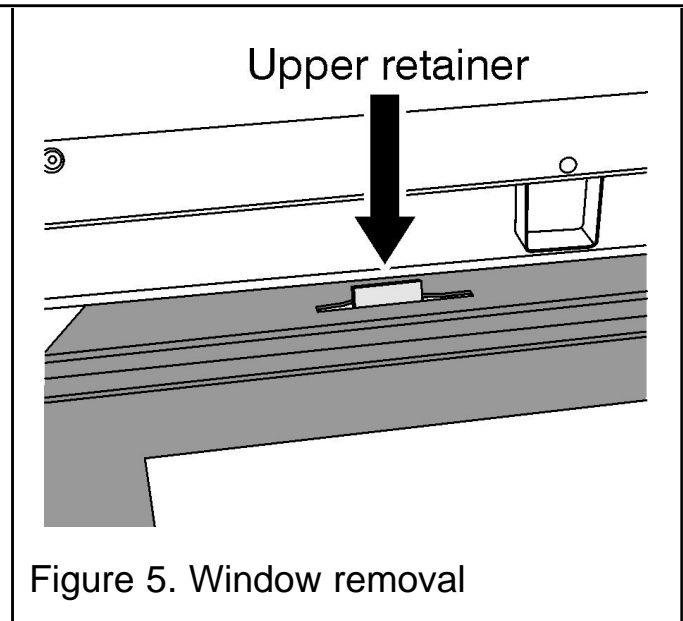

Figure 5. Window removal
2. With both clamps released, gently pull the base of the window panel forward. Hold the window panel base and lift upward until clear of the two upper window retainers (See figure 5).